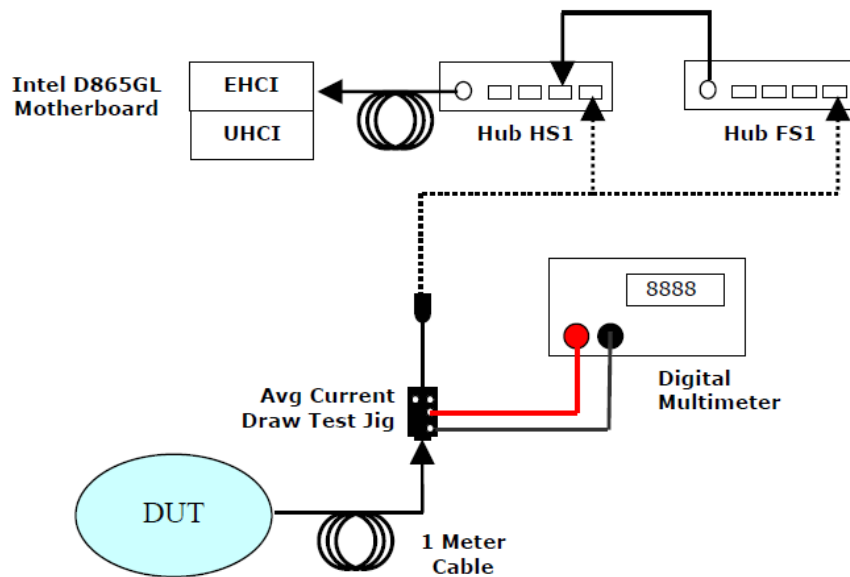

Figure 90. Current measurement environment
1. Connect the downstream port of a HS hub to a DUT, and the upstream port of a HS hub to the test bed computer, as shown in Figure 90, ensure that the gold-tree HS hub is used.
1. Connect the downstream port of a HS hub to the DUT, and the upstream port of a HS hub to the test bed computer, as shown in Figure 90. Ensure that the gold-tree HS Hub is used.